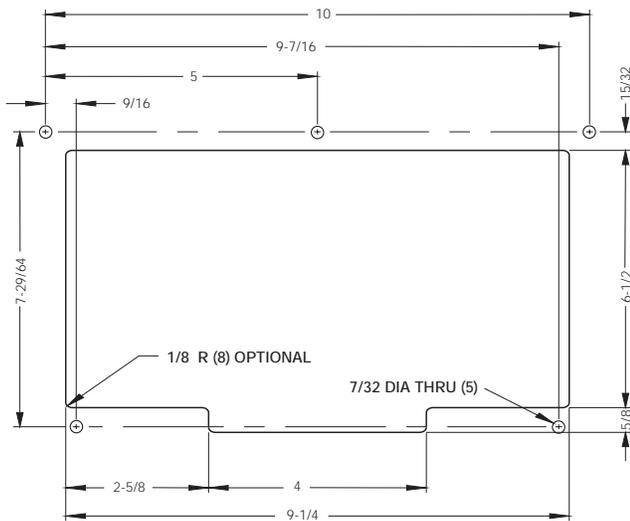

Figure 2-8. IQ plus 810 DT Panel Cutout
1. Create a template using the drawing in Figure 2-8 to mark the hole cutout in the panel.
5. Using a template made from the drawing shown in Figure 2-8, transfer the cutout to the panel. Cut out the panel and drill the holes to size. Hold the faceplate against the panel and secure with the five machine screws and washers provided.